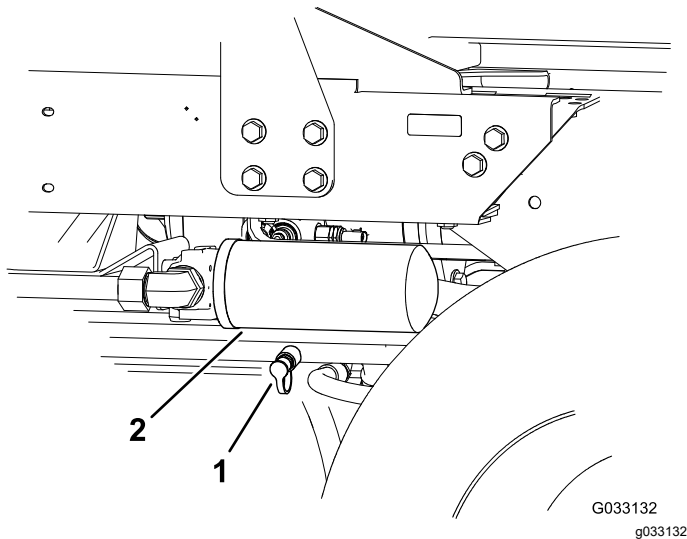

Figure 64
2. Connect a hydraulic hose between the diagnostic fitting installed in the rear traction manifold and the reverse traction pressure test port (Figure 64).